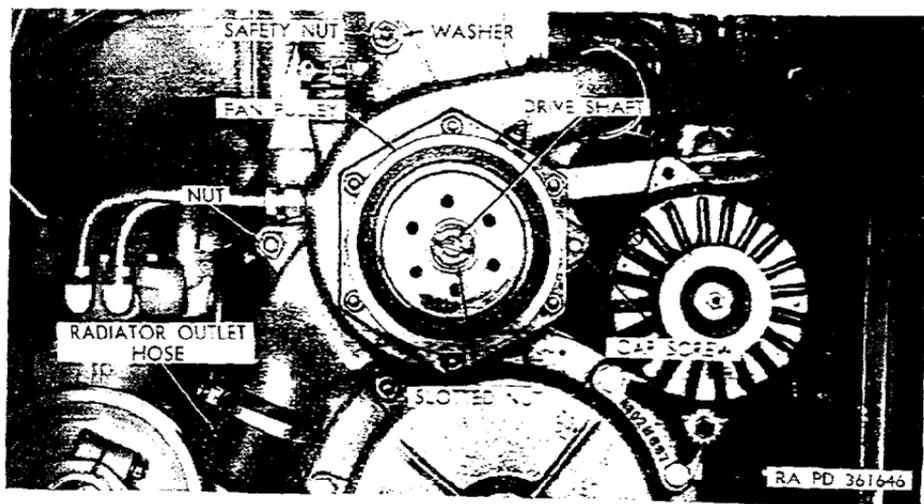
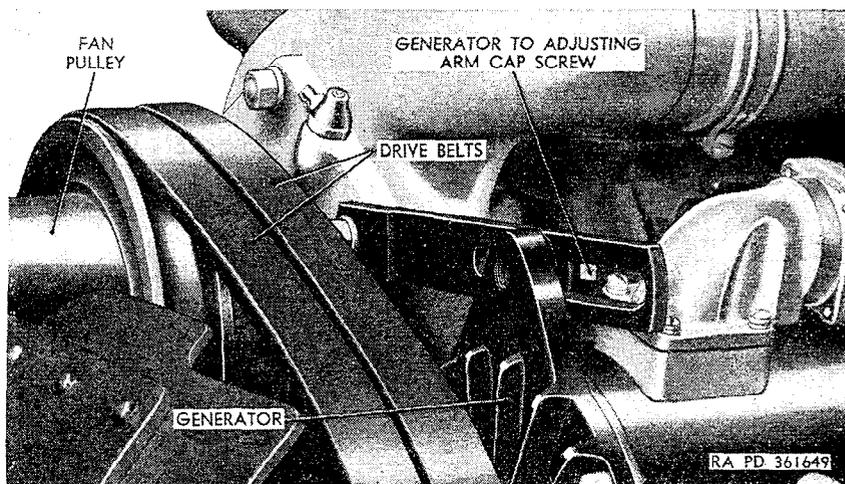

Figure 163. Front view of water pump with fan removed.
Figure 164. Drive belts installed on fan pulley.
c. Water pump. The centrifugal-type water pump (fig. 163), is located at the front of the engine on two studs (one on the crankcase and one on the front cylinder head) and secured by two nuts and one cap screw. The pump is driven by the fan pulley (fig. 164), mounted on the front end of the pump drive shaft, which is connected to the engine crankshaft pulley by a pair of matched drive belts.
- (5) Loosen rear clamp on radiator outlet hose (fig. 163).
- (3) Loosen upper hose clamp on radiator outlet hose (fig. 163).
- (5) Remove nut (fig. 163) and lockwasher securing water pump to stud at right front end of crankcase, and remove cap screw securing water pump to bracket at front left end of crankcase.
- (6) Support water pump and remove safety nut (fig. 163) and washer from stud at front end of front cylinder head. Remove pump from water inlet and outlet hoses and front of engine.
- (1) Position water pump on studs on right front end of crankcase and front end of front cylinder head, install nut (fig. 163) and lockwasher on crankcase stud, install self-locking nut and washer on cylinder head stud, and tighten nuts.
- (2) Install cap screw (fig. 163) to secure pump to left front end of crankcase, and tighten.
- (4) Slide upper end of radiator outlet hose (fig. 163) on water pump inlet, and tighten hose clamp.
(a) Loosen generator-to-adjusting-arm cap screw (fig. 164).
(a) Loosen generator-to-adjusting arm cap screw (fig. 164) and move generator as far as it will go toward engine.
(a) Place rear drive belt (fig. 164) over fan and then over crankshaft, fan, and generator pulleys.